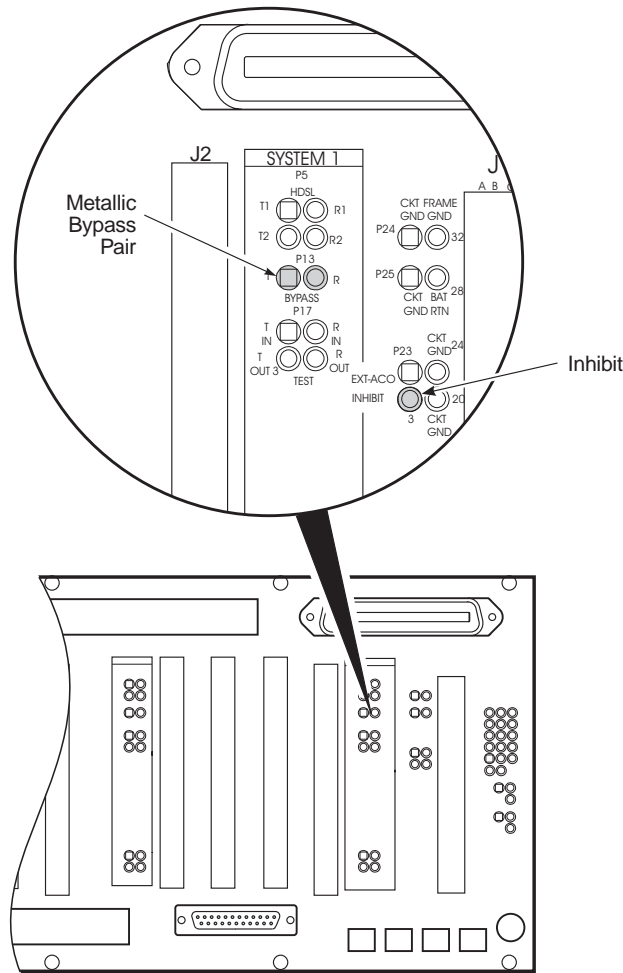

Figure 8. Connecting the Metallic Bypass Pair
If subscriber drop testing is required, connect the metallic bypass pairs from the RT enclosure to the COT shelf backplane wire-wrap pins as shown in Figure 8 (refer to Table 12 for bypass pair terminations and functions). Bypass pairs can be connected directly to each PG-Flex system, or shared between other PG-Flex systems by cascading the pairs between other systems.
- 1 For System 1, connect the metallic bypass pair from the Main Distribution Frame (MDF) to wire-wrap posts BYPASS_1_T (Tip) and BYPASS_1_R (Ring) on the COT shelf (see Figure 8).
- 1 For System *n*, connect the metallic bypass pair from the main distribution frame (MDF) to wire-wrap posts BYPASS_*n*_T (Tip) and BYPASS_*n*_R (Ring) on the backplane of the first system in the COT shelf sharing the bypass pair (see Figure 8).